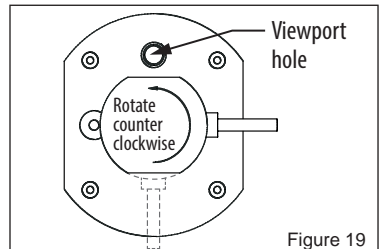

Figure 19
1. Rotate the CX-Aire ballast assembly counterclockwise until it stops (Figure 19).